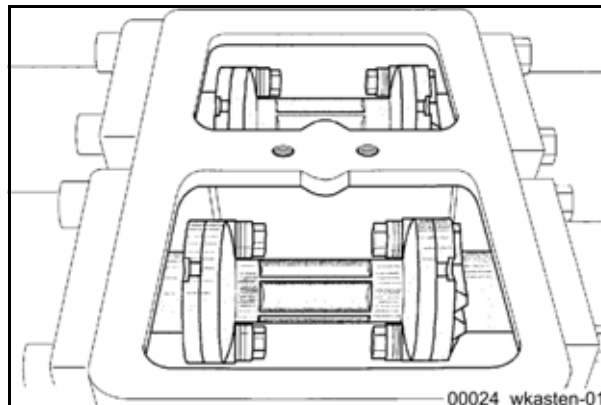

Fig. 355
- Move the piston to just in front of the rear end position. The distance piece (**Fig. 355**) must be fully visible in the water box.